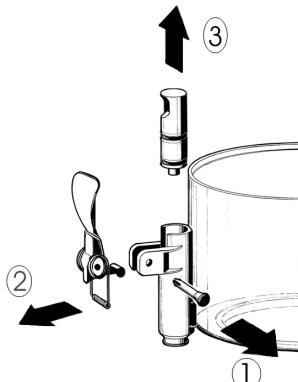

figure 1
- 3 Dismantle the faucet following the sequence shown (see fig. 1).
- 3 Reassemble the faucet assembly on the container in the opposite way to which it was dismantled (see fig. 1).